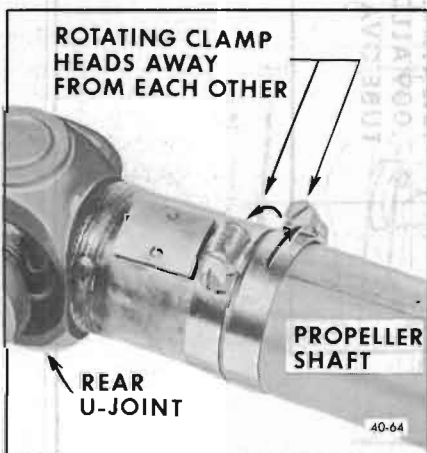

Figure 40-53—Rotating Balance Hose Clamps
7. Position clamps at point of minimum unbalance. Rotate the clamp heads away from each other 45 degrees. (One each way from the point of minimum unbalance) Run the car and note if unbalance has improved. See Figure 40-53.